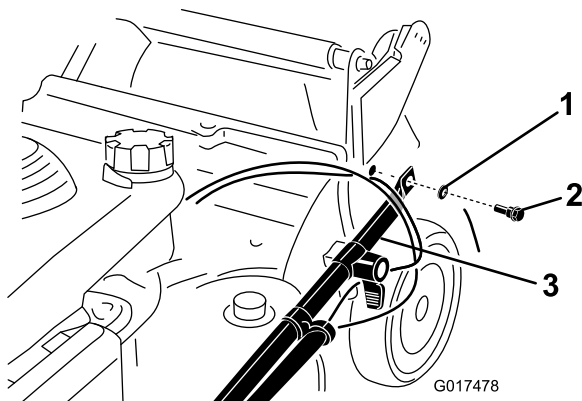

Figure 3
2. Attach the handle ends to the mower housing with 2 washers and 2 handle bolts (Figure 3), **but do not tighten the handle bolts.**
**Important:** Route the cables to the *outside* of the handle (Figure 3).